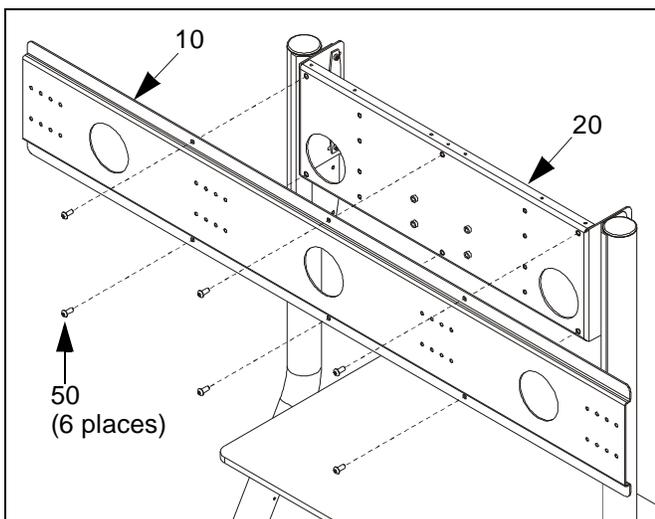

Figure 5: Install Dual Mount Bracket
3. Using hex key (70), install six screws (50) through bracket (10), into head (20) (See Figure 5). Tighten securely.